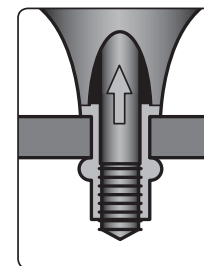

Fig. 6
- 6) Firmly hold the rivet drill adapter in your hand, maintain a stable stance and the clockwise rotation of the chuck head will result in the connection of two parts (fig. 6).**